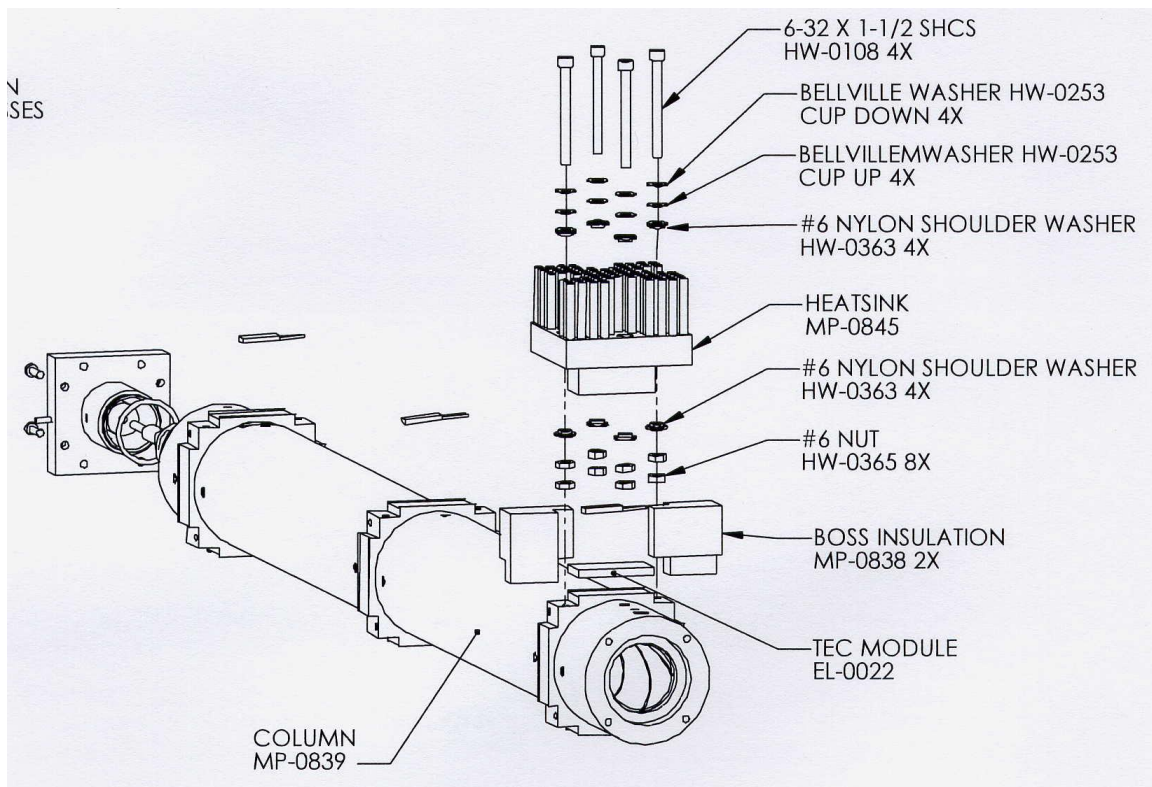

Figure 4: CCN Column Assembly (4 screw mounting version)
| Figure 4: CCN Column Assembly (4 screw mounting version) | 10 |
20. See the TEC assembly drawing, Figure 4, for details on the next steps. Remove the yellow rectangular sections of insulation next to the defective TEC units.